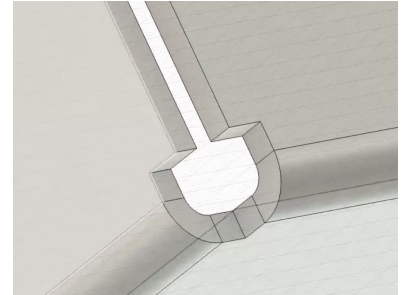

Figure 1.12
- When creating flanges that meet at a corner, CAD applies both bend and corner reliefs automatically, in this lesson it you can see we got both square reliefs (see Figures 1.12 and 1.13).